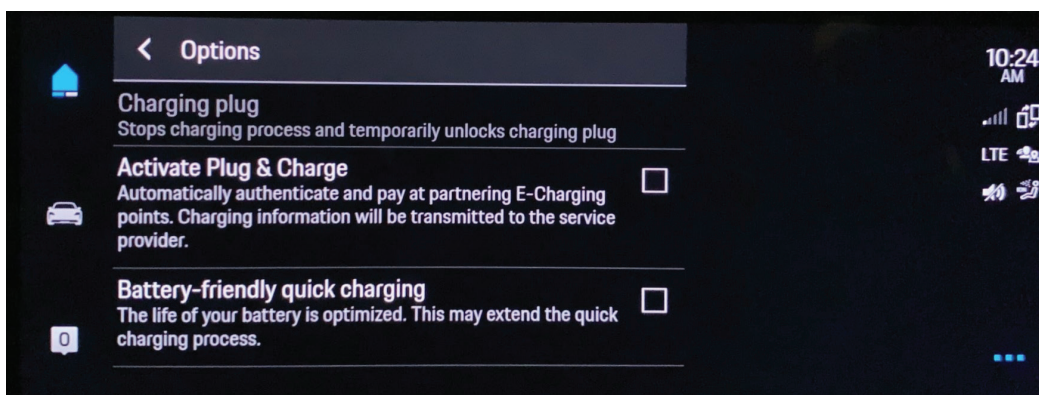

Figure 4
- Customers who experience difficulty starting a charging session should **attempt charging with Plug and Charge Deactivated via the PCM** menu Home → Charging → Options[...] (Figure 4). (Currently applies only to Model Year 2021 and later Taycan)